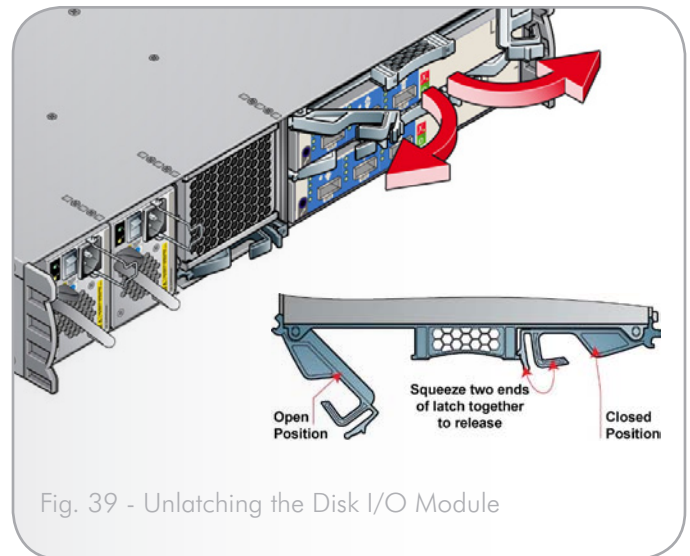

Fig. 39 - Unlatching the Disk I/O Module
2. Pull the latches outward to eject the module out of the enclosure (Fig. 39).